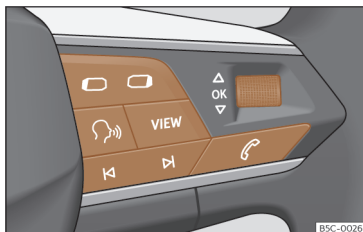

Fig. 61 Right side of the multifunction steering wheel: buttons for using the instrument cluster's menus and information displays (depending on versions).
As long as a priority 1» page 73 warning is active, it will not be possible to access any menu. Some warnings can be confirmed and hidden with the button **OK** of the multifunction steering wheel» **Fig. 61**.
- If a message or vehicle symbol is displayed, press the button **OK**» **Fig. 61**; if necessary, several times.
- To change menus, use buttons  or  » **Fig. 61**.
- To open the menu or the information displayed, press the button **OK**» **Fig. 61** or wait
- In the menu displayed, turn the right thumbwheel of the multifunction steering wheel» **Fig. 61** until the desired option of the menu is highlighted. The option appears framed.
- Press the button **OK**» **Fig. 61** to make the required modifications. A mark indicates that the system or function is activated.
Press the button  or  » **Fig. 61**.